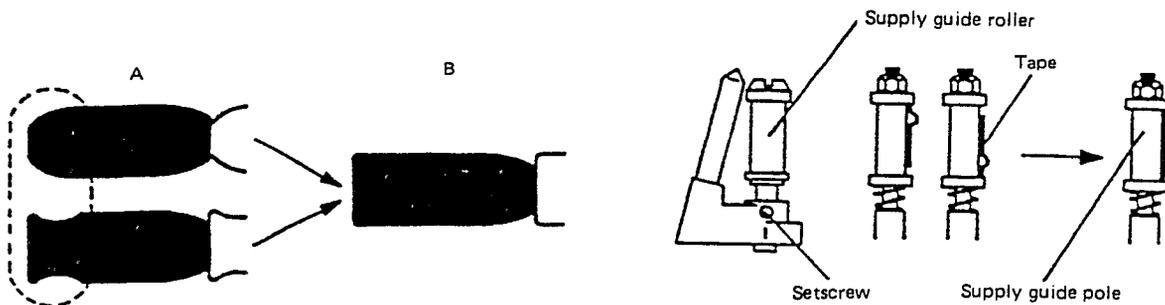

Fig. 31 Drum input adjustment
- Refer to Fig. 31. Examples of incorrect waveform are shown by A. Use a slotted screwdriver to adjust the supply guide roller so that the rising portion (drum input portion) on the waveform becomes flat as shown by B.